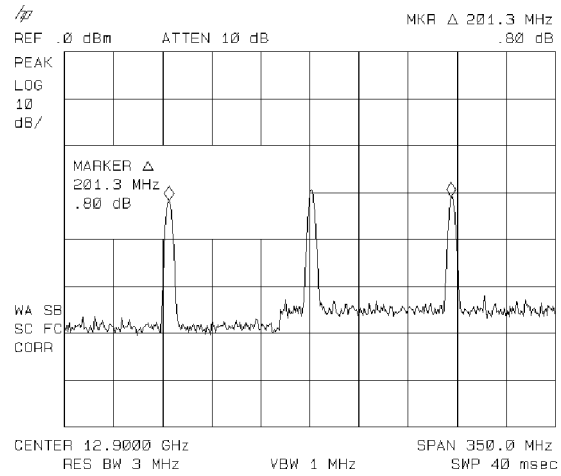

Figure 6-29. Harmonic Locking Off
- Press **MARKER Δ**. Use **NEXT PK RIGHT** to place a marker on the farthest peak to the right. The marker readout displays the frequency and amplitude difference between the two comb teeth. See Figure 6-29.